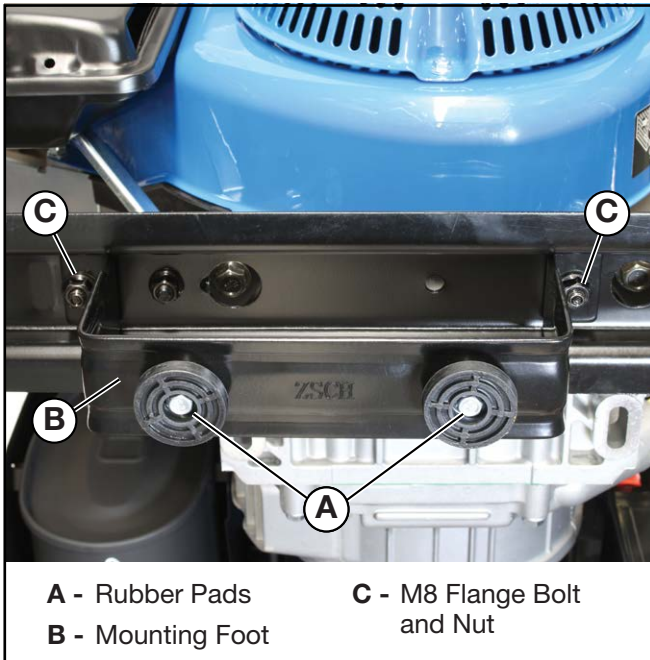

Figure 5 – Attaching Mounting Foot to Frame
3. Attach the rubber pads onto the mounting foot using the M6 bolts and nuts as shown in *Figure 5*.